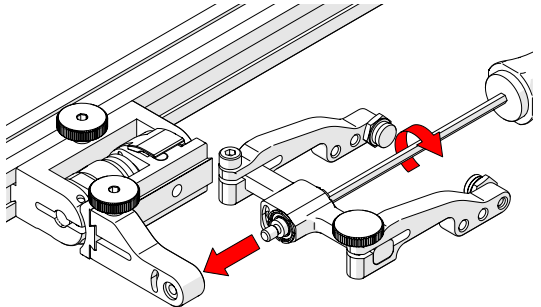

Fig. 56 - Install yoke to swing arm
6. Using the 3 mm hex driver, screw the yoke pivot screw into the opposite side of the probe holder swing arm (Fig. 56). Ensure the yoke is level to avoid issues with the plunger/set screw.